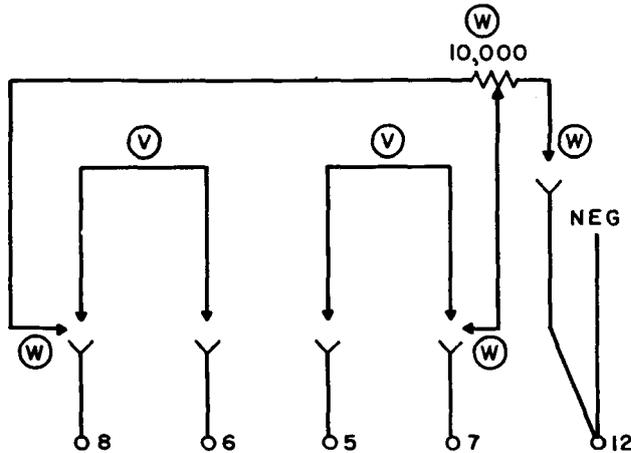

Fig. 5 - Connection Data for Remote Gain Control for KS-16754 Amplifier
5.05 When remote gain control is required, remove straps 5 to 7 and 6 to 8 (V option). Connect remote gain control to terminals 7, 8, and 12 with adjustable arm to terminal 7 (W option). (See Fig. 5.)